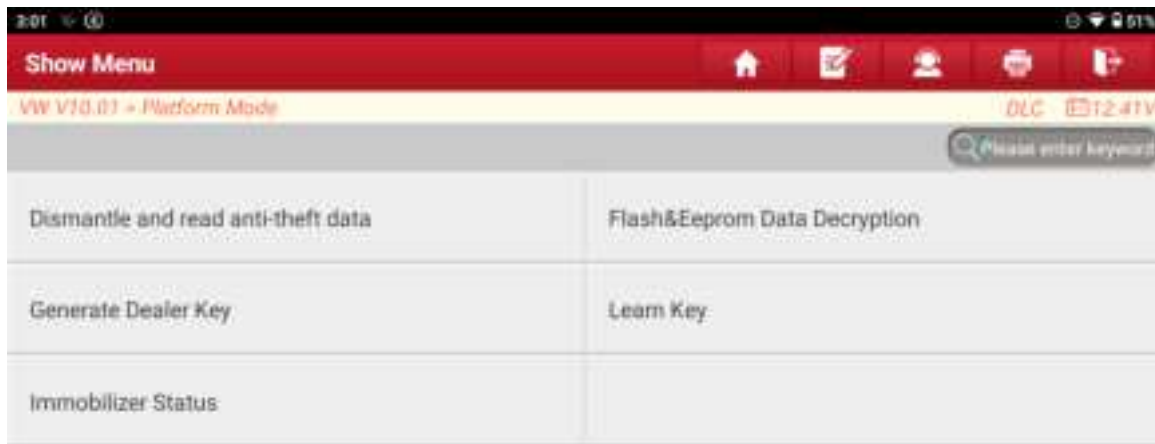

Figure 6
6. Choose [Dismantle and read anti-theft data], as shown in Figure 6.